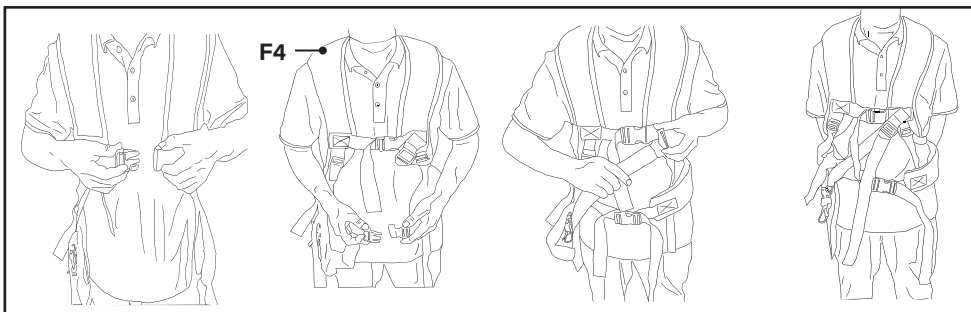

Fig. 13
3. Adjust the length of the harness (F4) so that the weight of the machine is balanced and the cutting attachment is approximately 10–15 cm above the ground (Fig. 13).